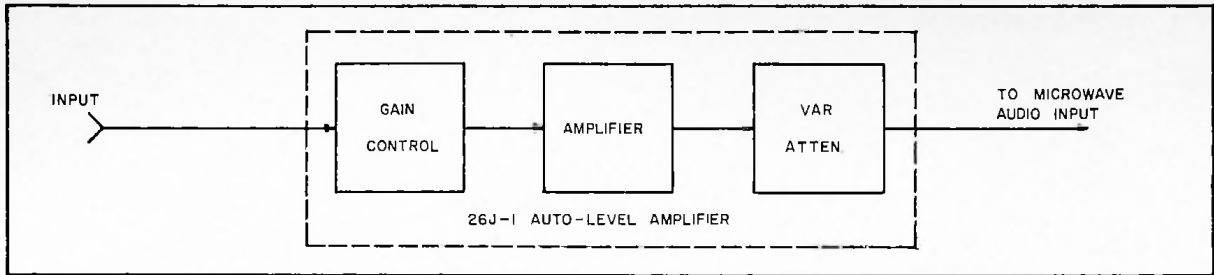

Figure 5. Collins Type 26J-1 Auto-Level Amplifier as Automatic Level Control in Microwave Relay Systems, Suggested Arrangement
6.5 THE 26J-1 AUTO-LEVEL AMPLIFIER USED IN MICROWAVE RELAY SYSTEM. Figure 5 shows a method for using the 26J-1 Auto-Level Amplifier to minimize audio level variations in a microwave relay system.